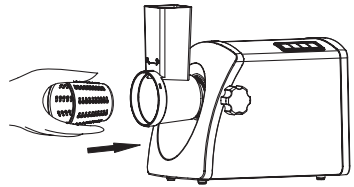

Figure 15.
3. Insert the desired shredding cone (fig. 15).